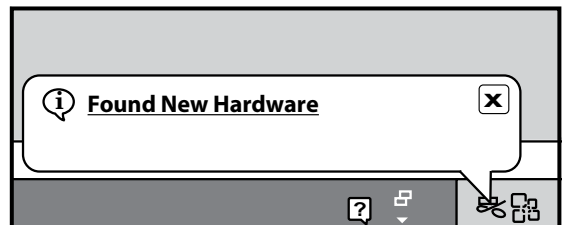

Figure 6
9. Your computer should display a **“New Hardware Found”** message on the tool bar near the clock (fig. 6). The unit is now ready to use.